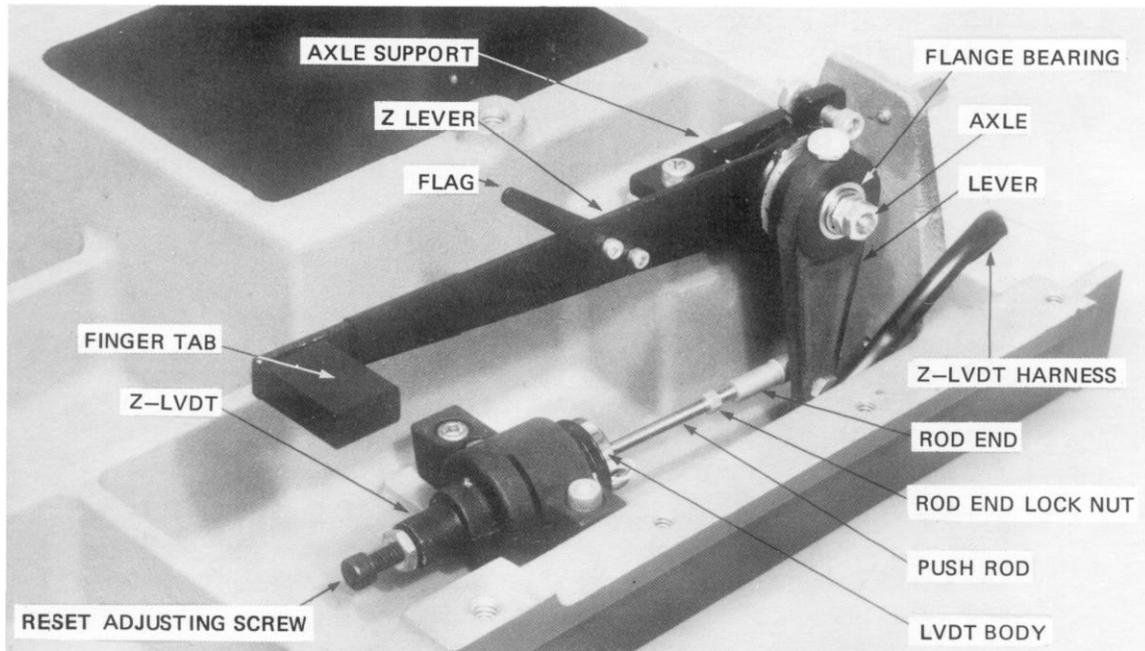

FIG. 3-11 MANUAL Z ASSEMBLY
- 3.3.6 MANUAL Z SYSTEM (optional) Fig 3-11, 3-15) is used for all applications where slow manual control of the bonding head is required, where great bonding height differences are encountered, and when high placement precision is required.